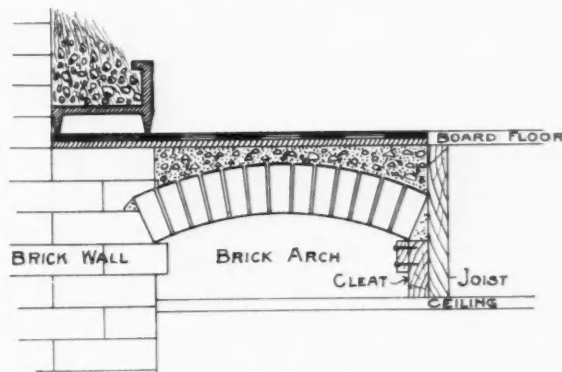

Fig. 6. Foundation for Tile Hearth
**FOUNDATION FOR HEARTHES** should be placed upon brick arch if possible, to insure perfect fire protection, then covered with concrete in same manner as directed for tile floors (see Fig. 6).